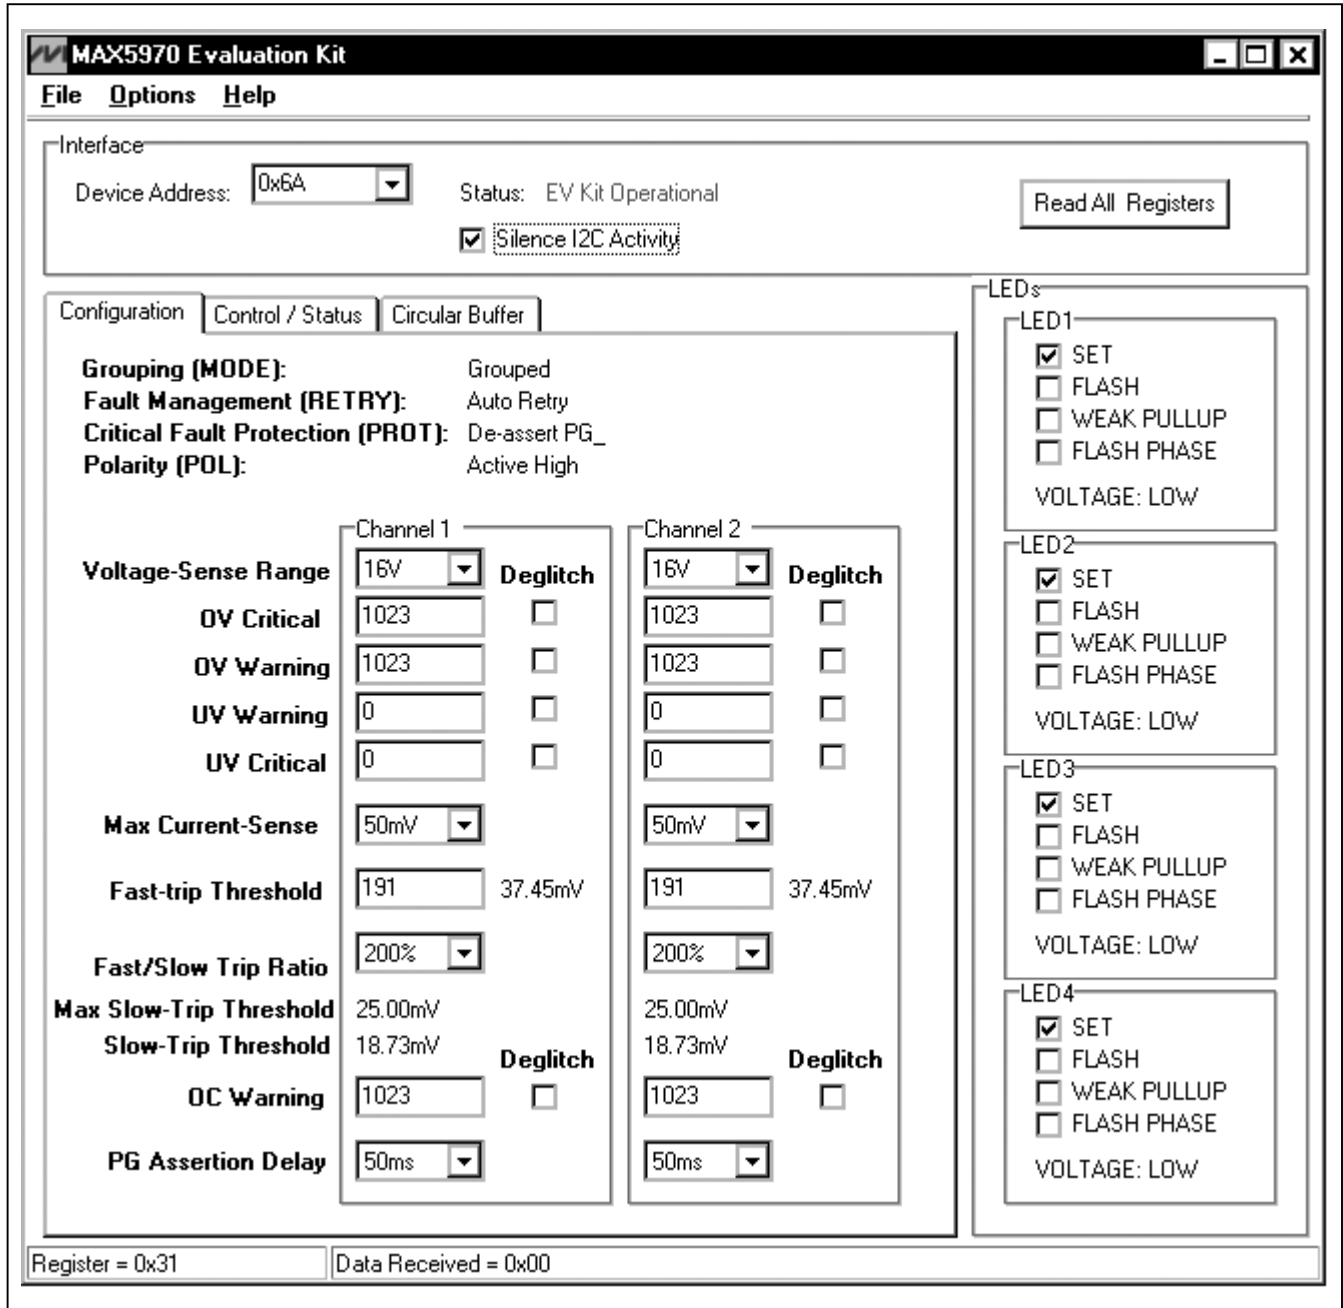

Figure 1. MAX5970 EV Kit Software Main Window (Configuration Tab)
- 11) Start the EV kit software by opening its icon in the **Start | Programs** menu. The EV kit software main window appears, as shown in Figure 1. Observe as the program automatically detects the address of the MAX5970 and starts the main program.
The MAX5970 EV kit user interface (Figure 1) is easy to operate; use the mouse, or press the Tab key to navigate with the arrow keys. Each of the buttons correspond to bits in the command and configuration bytes. By clicking on them, the correct I²C-compatible write operation is generated to update the internal registers of the MAX5970.
The EV kit software **Configuration** tab sheet (Figure 1) displays the **Grouping (MODE)**, **Fault Management (RETRY)**, **Critical Fault Protection (PROT)**, and **Polarity (POL)** general settings at the top, while grouping channel-specific settings below. See Table 2 for GUI control details for each channel. Check the **Deglintch** checkboxes located to the right of the **OV Critical**, **OV Warning**, **UV Warning**, **UV Critical**, and **OC Warning** input controls to enable the deglitch feature for those settings.